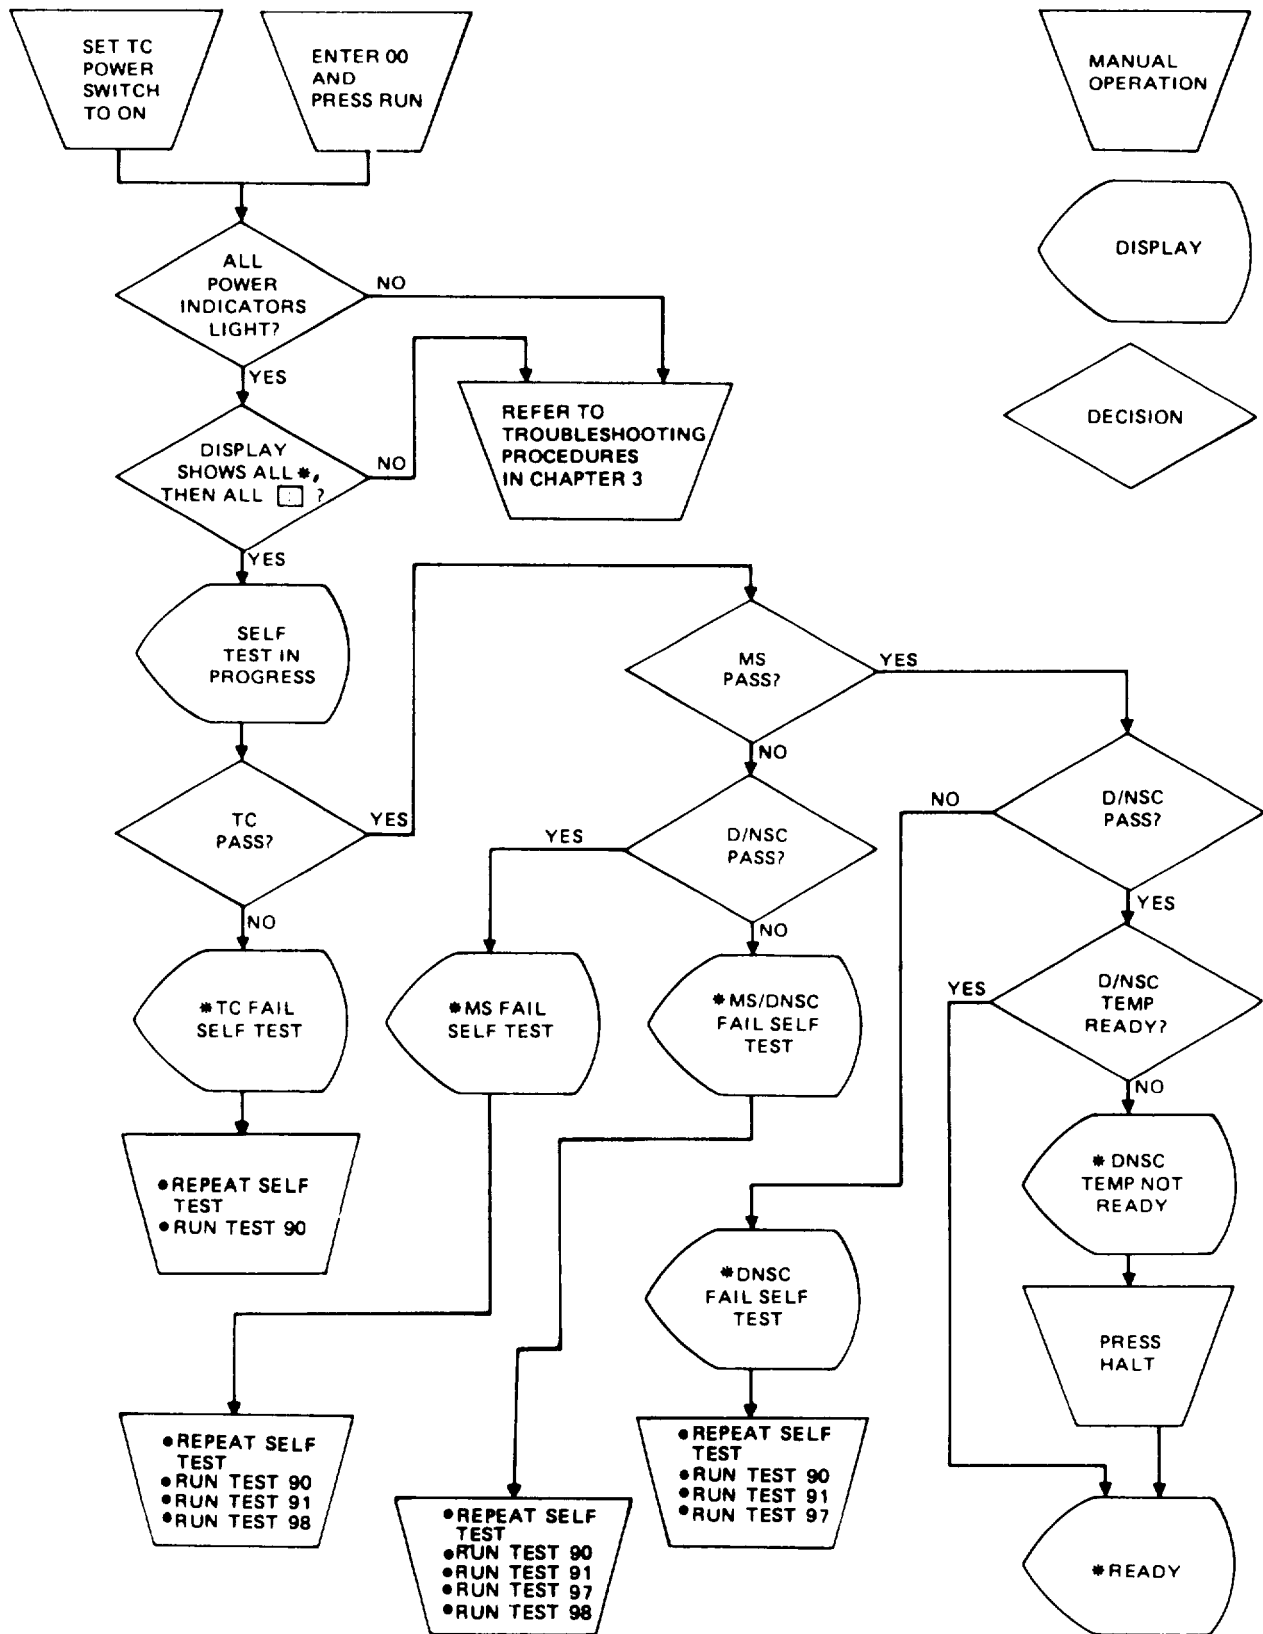

Figure 2-10. Test Set Self Test Flow Chart.
(2) Set POWER switch on TC to ON. This applies power to the test set and initiates the self test (test 00). Observe that all three power indicators on the TC light, then observe TC display for display test. A flow chart for self test is provided in figure 2-10. Self test takes approximately 30 seconds to execute.
(3) Observe TC display for self test results. To repeat self test, if desired, enter 00 and press RUN.
(4) If self test repeatedly fails and the cause cannot be determined, remove TSSTS from turret and perform the diagnostic self tests (tests 90, 91, 97, or 98) to further isolate the source of the problem. The diagnostic self tests are only performed when the TSSTS is no longer installed *in* the vehicle to prevent false failure indications. For detailed instructions, refer to the troubleshooting procedures in paragraph 3-6.
(5) To operate the test set, use the TC keyboard to enter the desired operations in accordance with the operating instructions provided on flip cards on the TC front panel. Any special operator actions required will be indicated on the TC display.